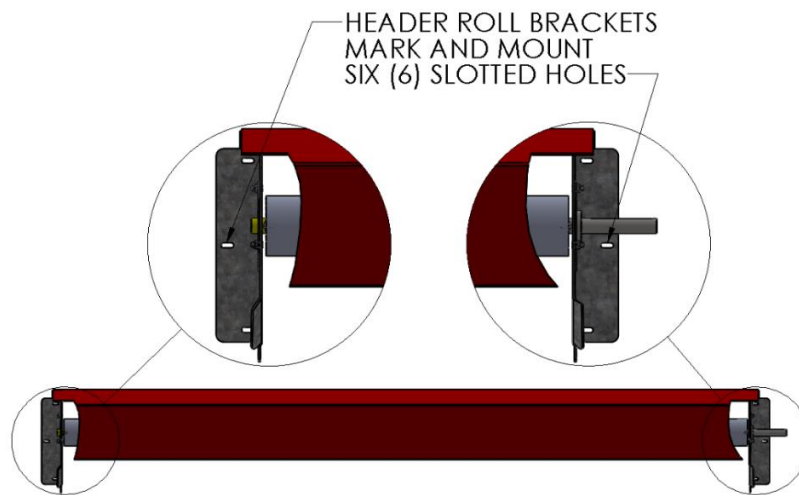

Figure 6 MOUNT HEADER ASSEMBLY TO WALL
8. Using two (2) people, and two ladders at minimum, raise the Roll Header Assembly into place on the wall, and loosely secure with three (3) sets of mounting hardware per side using screws or bolts that are adequate to your building/surface material. (Figure 6 MOUNT HEADER ASSEMBLY TO WALL)